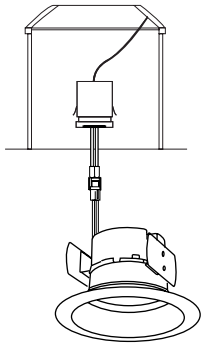

Figure 4
2. Plug the FEMALE CONNECTOR of the RECESSED TRIM into the MALE CONNECTOR of the SOCKET ADAPTER ASSEMBLY. (Figure 4)